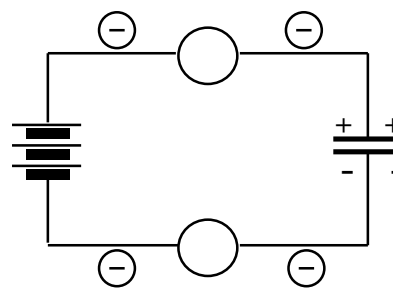

Figure 8.8b
1. On Figure 8.8b, draw arrows to show the direction hypothetical mobile particles carrying negative (-) charge must move in order to discharge the capacitor (if any exist).